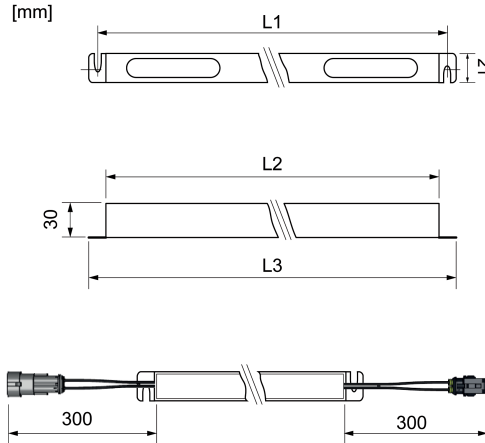

Figure 3: Dimensioned drawing [mm]
- Prepare boreholes in the groove for the fastening of the luminaires. Observe dimensioned drawing for the distance of the boreholes (Figure 3).